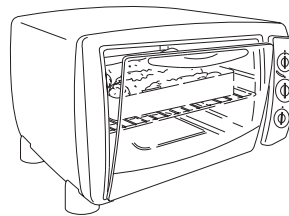

fig. 3
In the case of food that has already been cooked or is to be cooked au gratin, place the container directly on the wire rack in the centre guide (2); the door must be left ajar as shown in Figure 3. A bell will ring when the set cooking time has elapsed; if cooking is completed before the end of the set time, manually turn the ON/OFF and timer knob (G) to position "0".